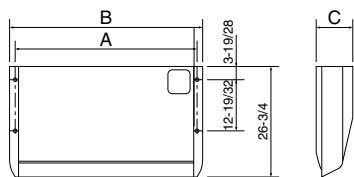

Fig. 3-2
①	Washer	4 pcs
②	Pipe cover	1 pc Large size (For gas tubing)
③	Pipe cover	1 pc Small size (For liquid tubing)
④	Band	4 pcs
⑤	Joint socket	1 pc Marked with "UNIT"
⑥	Socket cover	1 pc
⑦	Drain tubing cover	1 pc
⑧	Wired remote controller	1 pc
3.2. Preparation for installation (Fig. 3-2)